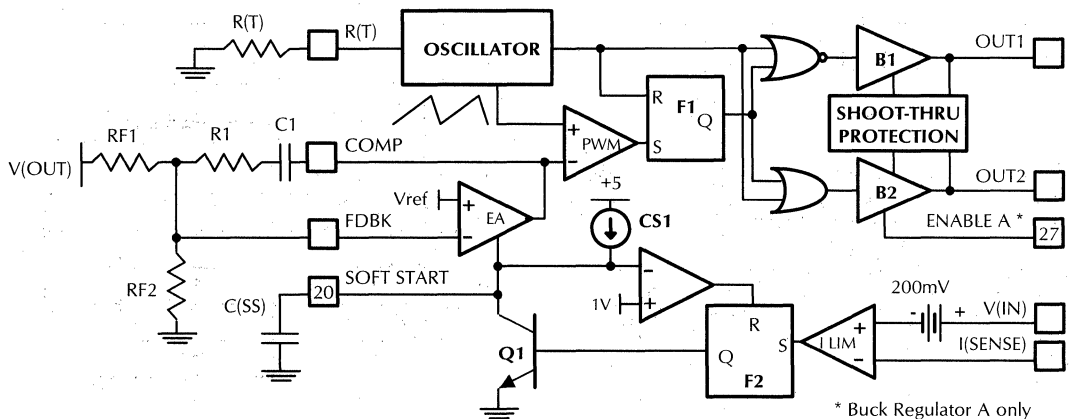

Figure 3. Buck Regulator Block Diagram
The two buck regulators (fig. 3) are synchronously rectifying voltage mode PWM regulators capable of being used over a wide variety of loads and input voltages. The use of synchronous rectification improves system efficiency by reducing the fixed drop associated with the "freewheeling" diode in conventional regulators. These regulators also drive all N-Channel power MOSFETs, significantly improving system efficiency at a low cost. In order to drive the MOSFET gates adequately, a V(GT) supply must be provided which is higher than the battery voltage by an amount sufficient to provide full enhancement voltage to the MOSFETs. This can be generated by using a winding from the 5V buck regulator as shown below. V(GT) must not be lower than 0.5V below V(IN).
Proper compensation can be accomplished in many ways. The simplest compensation scheme (fig. 3, without C1) uses resistive feedback (R1) around the error amplifier. This reduces the gain of the op-amp which is in the overall loop's feedback path. This sets the overall loop gain to allow the loop's unity gain crossover to occur after the zero created by the ESR of the output capacitor has taken effect. This influences the two pole roll off created by the output inductor and the output capacitor providing the phase margin required to keep the loop stable under all conditions.